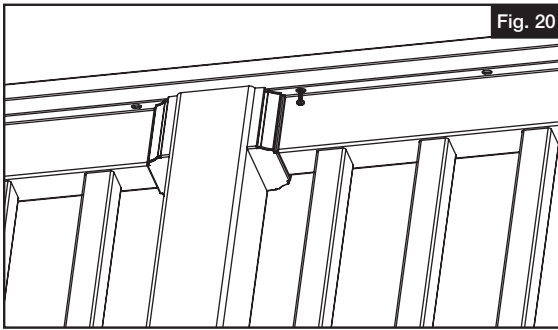

Fig. 20
- b. Drive #10 x 3/4" screws up from under rail centered through slotted holes and into deck board (Fig. 20).